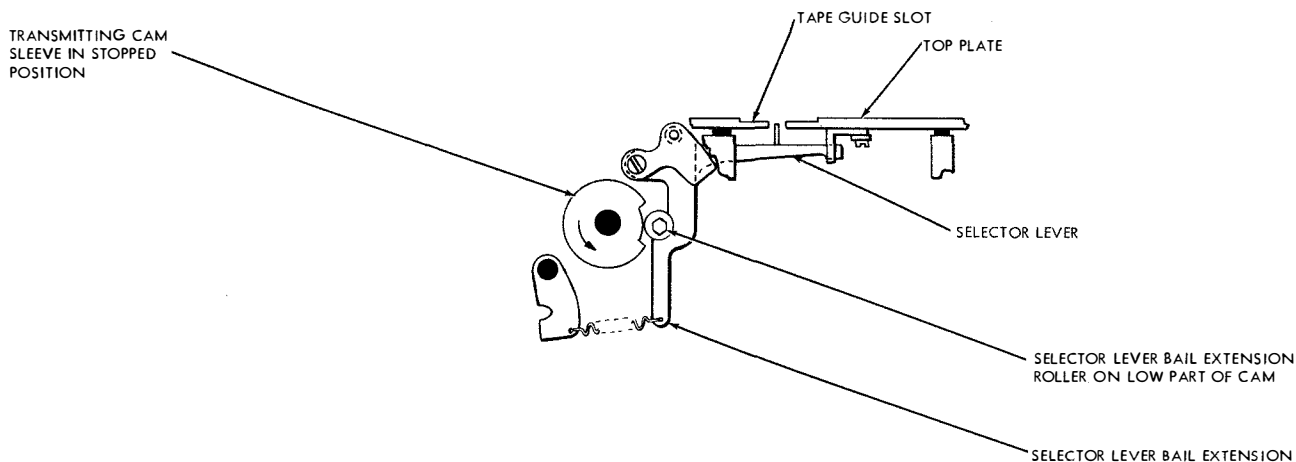

Figure 2-50. Selector Lever Bail and Roller
2. As the cam sleeve rotates, the selector lever bail extension roller rides onto the high side of its cam, actuating the selector lever bail (see figure 2-50). The selector levers are now free to respond to the tension exerted on them by their springs. The selector levers rotate and remove their pins upward through an opening in the top plate to sense the perforated tape. The selector lever pins which encounter holes in the tape advance through the tape; the pins which do not encounter perforated holes in the tape are blocked and prevented from advancing further.